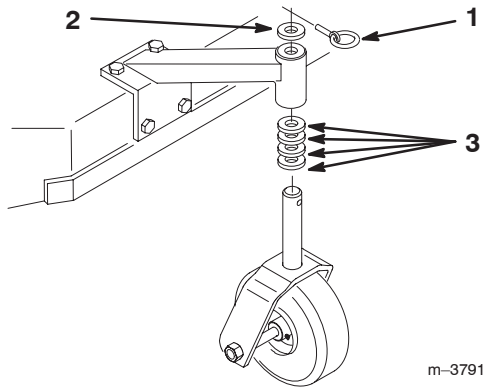

Figure 21
1. Using the Height-of-Cut Chart (on page), adjust the caster spacers to match with the axle hole selected (Fig. 21).
2. Remove the clevis pin, slide the caster from the support, and change the spacers (Fig. 21).
3. Install the caster in the support and insert the clevis pin (Fig. 21).